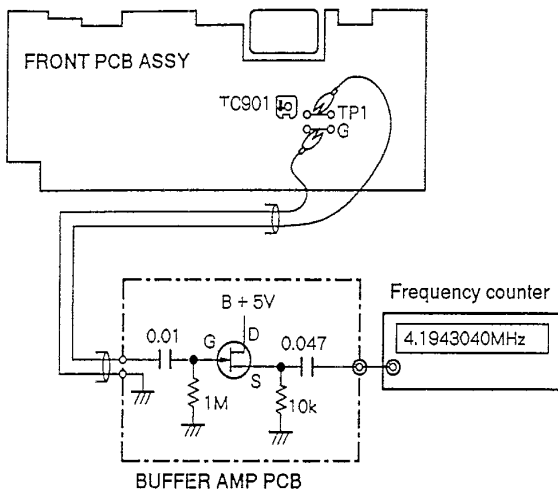

Fig. 1 Clock Frequency Adjustment
- (1) Connect a Frequency Counter to TP1 and G on the FRONT PCB ASSY via the BUFFER AMP PCB as shown in Fig. 1.
- (2) Adjust TC901 so that the frequency becomes $4.194304\text{MHz} \pm 40\text{Hz}$ (4.194264MHz to 4.194344MHz).